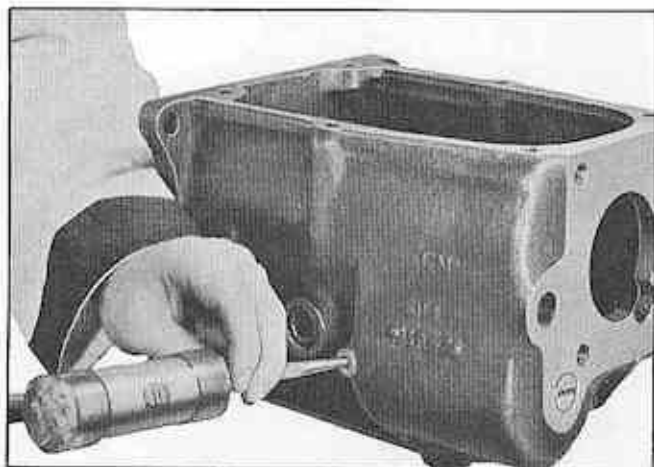

Fig. 29 Driving Reverse Idler Gear Shaft Lock Pin Into Shaft
14. Using punch drive counter gear shaft lock pin into the shaft, then drive shaft out through rear of transmission case using Bearing Loader Tool J-1001-A and a soft hammer (Fig. 29). Make sure
18. Drive reverse idler gear shaft lock pin into shaft and drive shaft out of rear of case (Fig. 29). Drive lock pin out of shaft. NOTE: Slot on end of shaft is for aid in locating drive pin hole on installation.